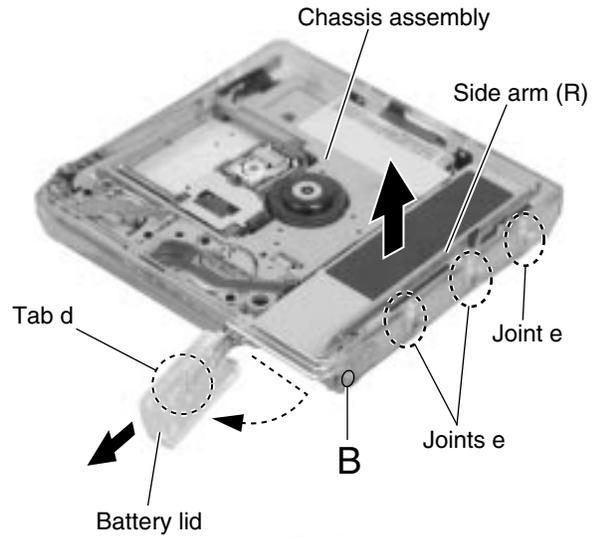

Fig.5
**(See Fig.5 to 7)**
2. Remove the screw **B** and pull out the side arm (R) upward.